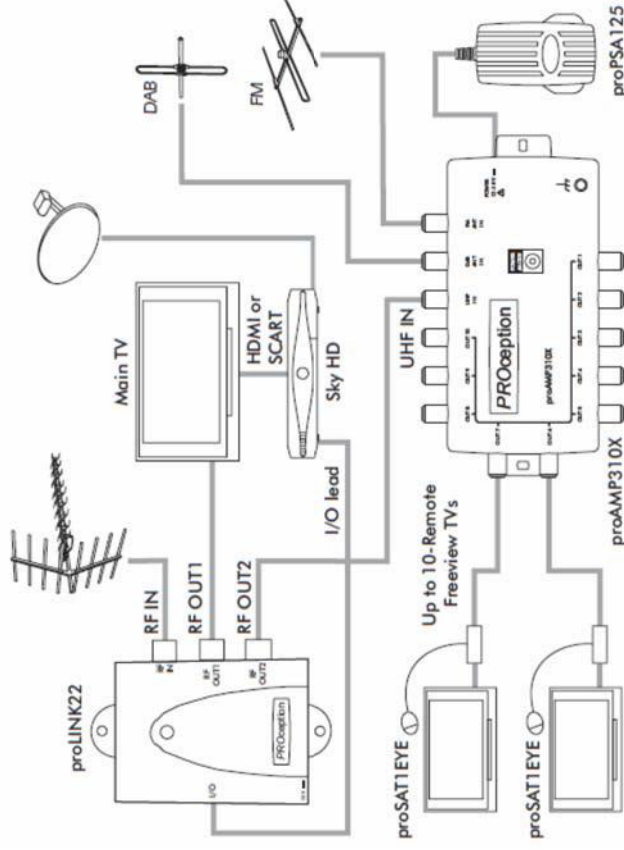

Fig.3—1+10-way system using proAMP310X amplifier.
- Fig 3 shows a 1+10-way system using a proAMP310X amplifier. In this system, the power unit must be connected to the amplifier, not the modulator. (Alternatively, a proPSU112X may be used in-line between the proAMP310X and the proLINK22.)